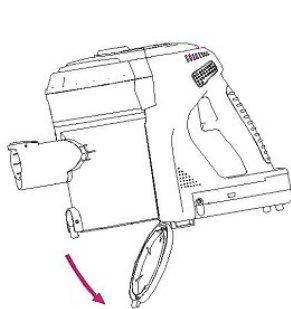

Figure 9
- 1> Press the button at the bottom of the cup, the bottom of the dust cup will open and the dust in the cup can be cleaned up. Fig. 9